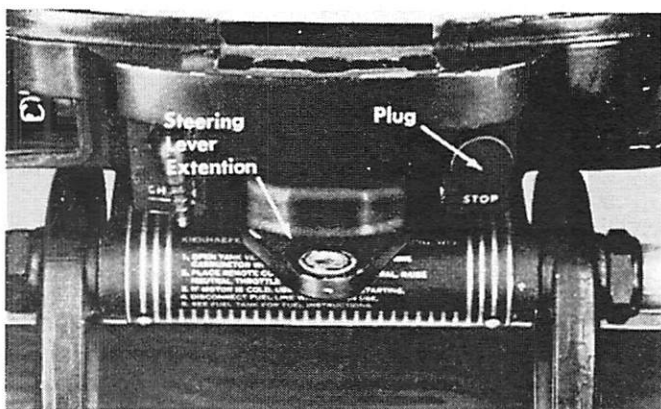

Figure 2. Steering Lever Extension
3. Insert plug and fastener in opening in bottom cowl. (Figure 2)
1. Remove nuts, which secure steering lever extension to steering lever, and remove extension. (Figure 2)